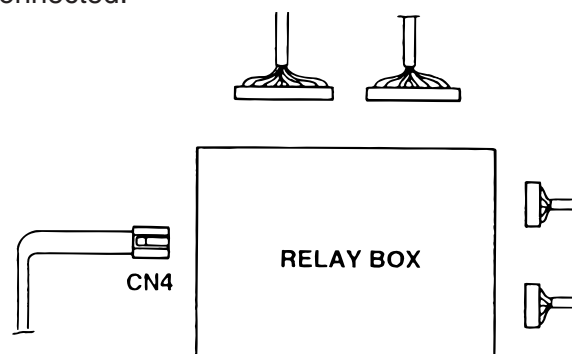

Figure 6-2. Main Power Test
2. Disconnect connector CN4 from the relay box. See figure 6-2. Leave all other connectors connected.